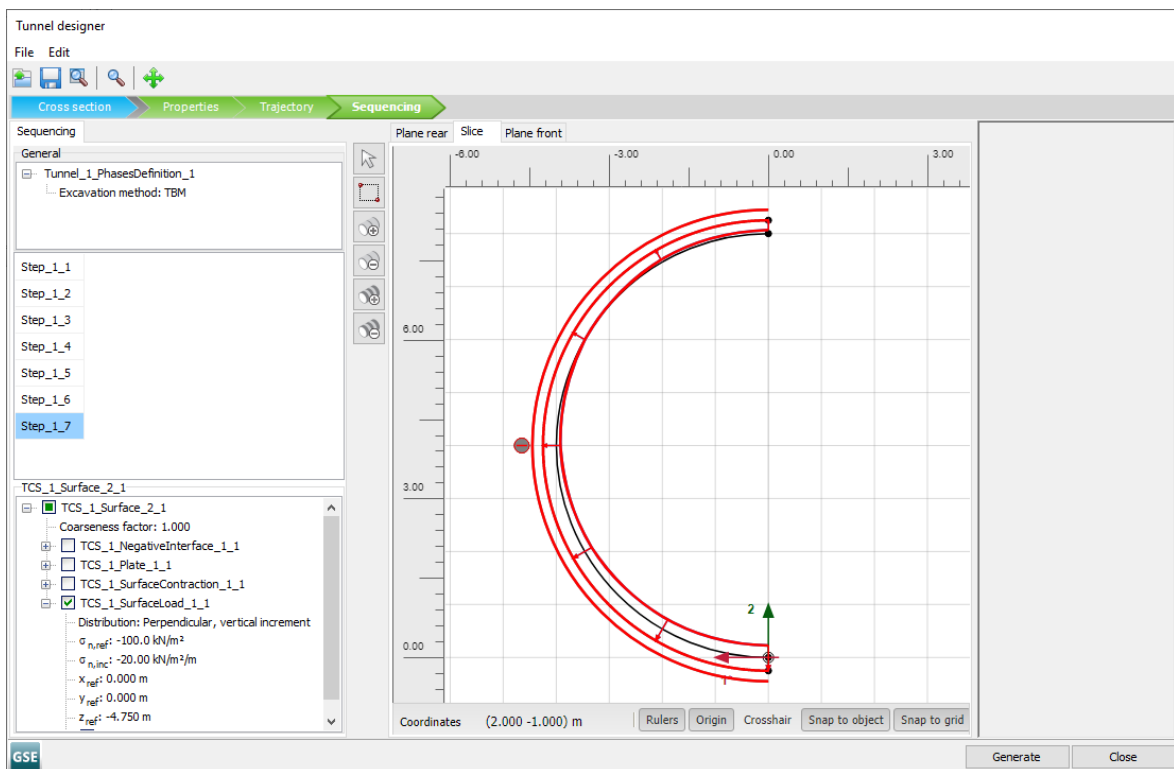

Figure 73: Slice tabsheet in the **Tunnel designer** Step_1_7
- In the **Selection explorer**, activate the surface load corresponding to the grout pressure (Figure 73 (on page 100)).